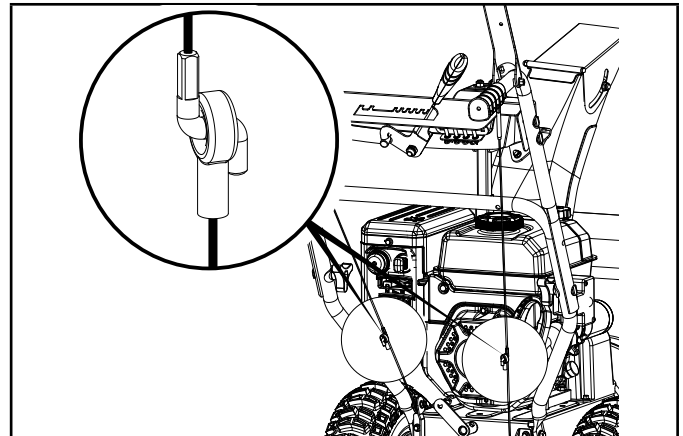

Figure 5
1. Fold the upper handle up, making sure the cables pull tight (Fig 5).